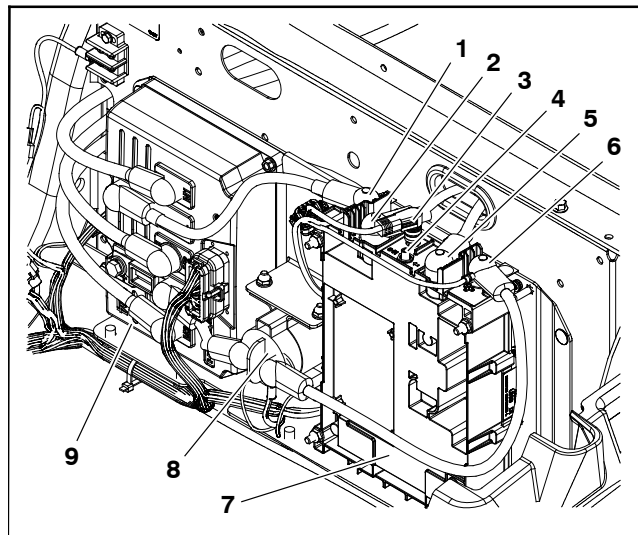

Figure 67
A. Remove nut, lock washer, flat washer and cable connector from battery controller terminals negative, B-, B+ and positive terminal. (Fig. 67).
7. Remove four (4) nuts (7) and carriage bolts (17) that secure battery controller to controller bracket. Carefully remove battery controller from vehicle.
1. Position SC1: lithium-ion battery controller to controller bracket and secure with four (4) carriage bolts (17) and nuts (7). Torque the nuts (7) from **45 to 55 in-lb (5 to 6.2 N-m)**.
B. Secure controller cables to controller terminals negative, B-, B+ and positive terminal with nut, lock washer and flat washer (Fig. 67). Torque the nuts from **72 to 88 in-lb (8 to 9 N-m)**.